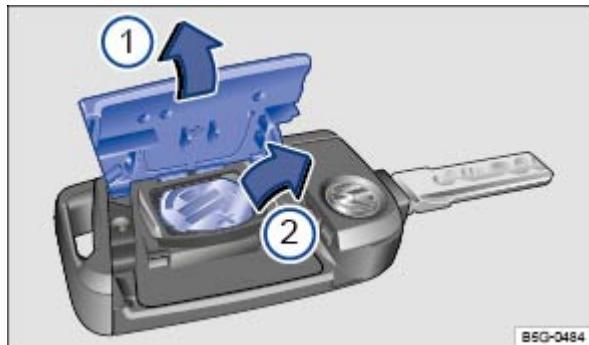

Fig. 50 Remote control vehicle key: Opening the battery compartment cover and removing the old battery.
The battery is in the back of the remote control vehicle key under a cover ⇒ Fig. 50①.
Key to ⇒ Fig. 50 :
- Remove the cover on the back of the remote control vehicle key ⇒ Fig. 50① in the direction of the arrow using a suitable object such as a coin ⇒ ①. This action may require some force.
- Use a thin object to pry the battery out of the battery compartment ⇒ Fig. 50②.